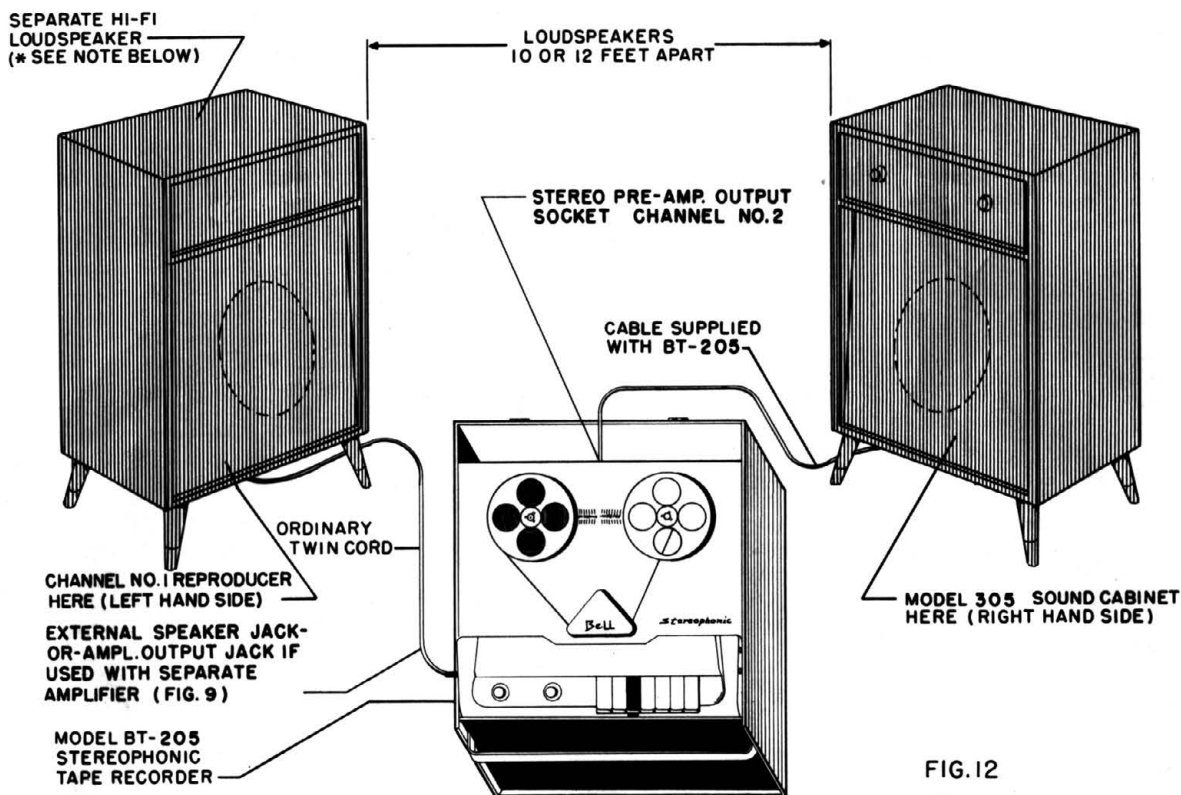

FIG. 12
1. Remove the 8 ft. shielded cable supplied with the machine and plug one end into the BT-205 stereo pre-amp output (see Fig. 12). This is #2 channel.